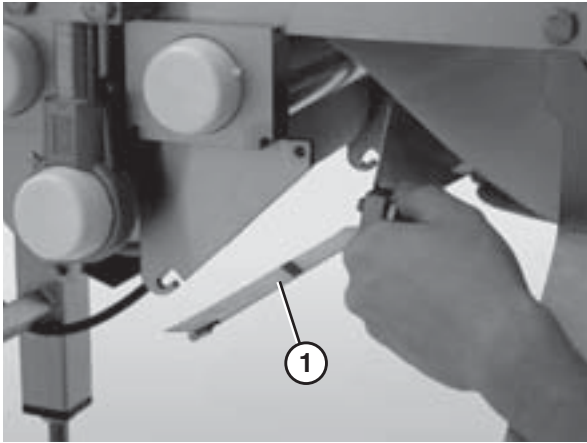

Figure 30
3. Lift up on the center drive guard (Figure 30, item 1) and remove it.
10. Reattach the center drive guards (Figure 30, item 1).